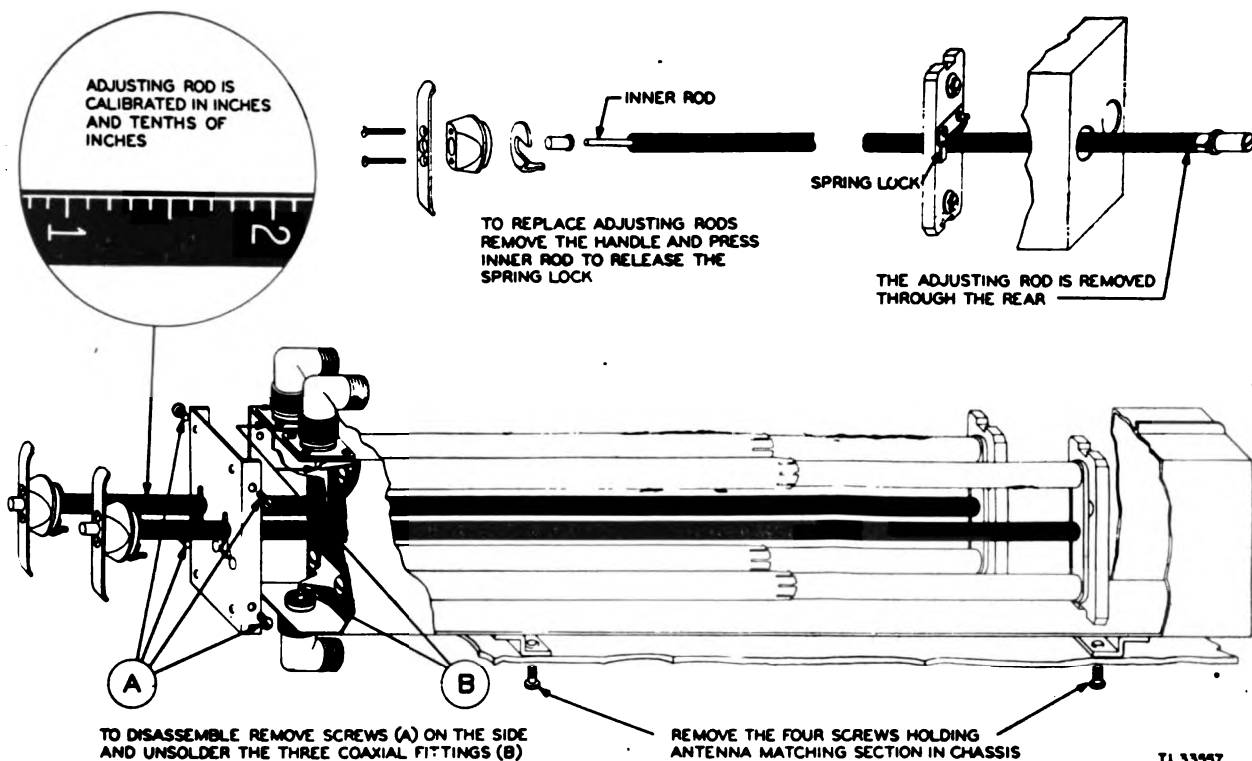
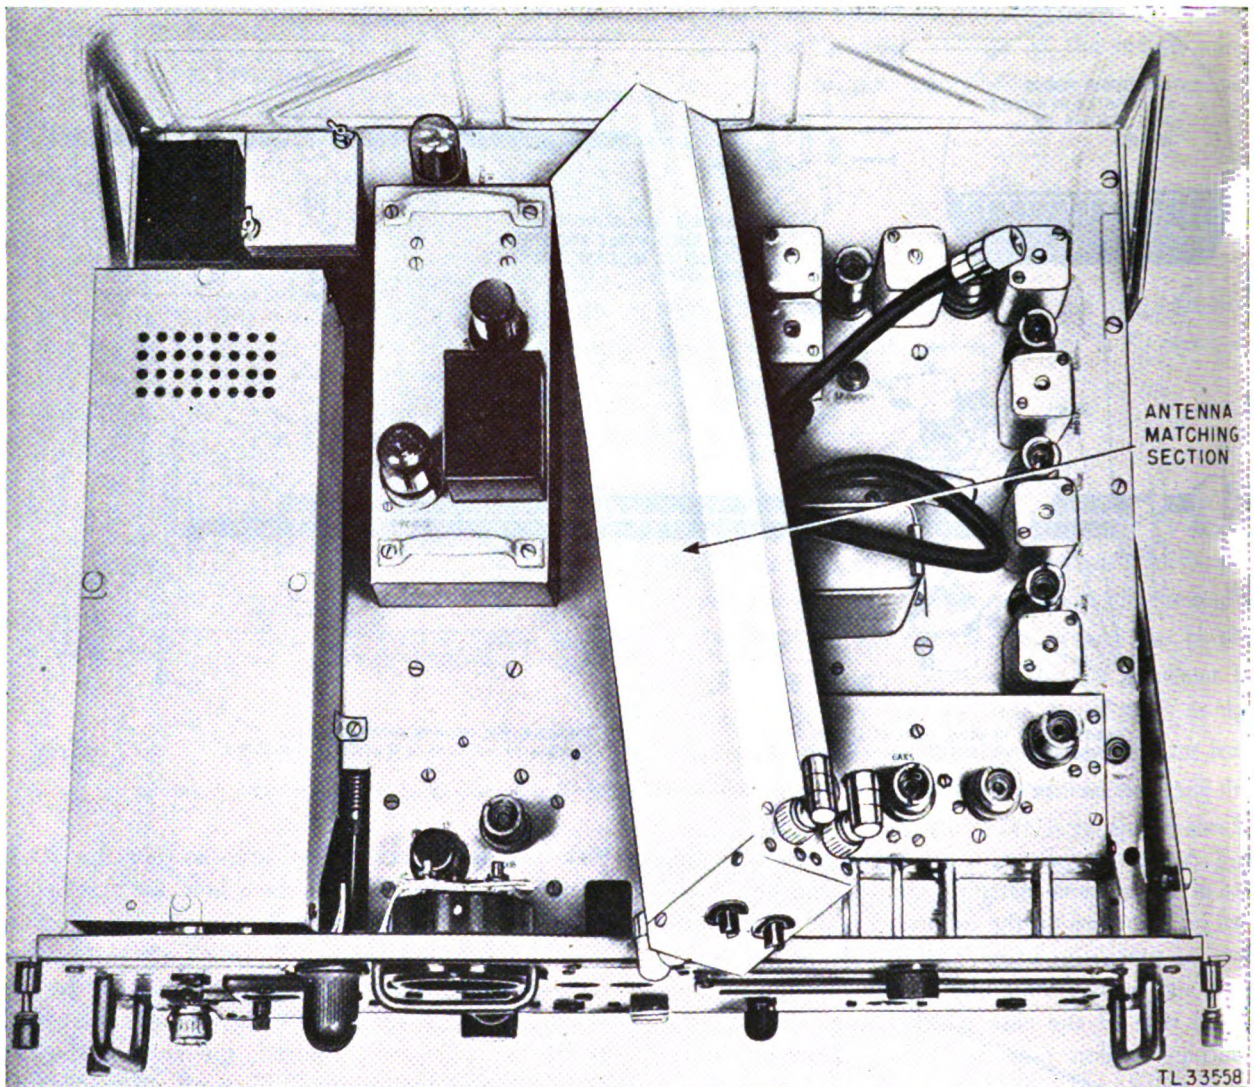

Figure 195. Radio Receiver and Transmitter BC-1267-A, disassembly of antenna-matching section.
Figure 196. Radio Receiver and Transmitter BC-1267-A, removal of antenna-matching section.
**b. ADJUSTING RODS.** To replace an adjusting rod of the antenna-matching section, engage the rod and set it to zero on the calibrated scale; remove the handle; press the inner rod to release the spring lock; and remove the adjusting rod through the hole in the rear of the case which houses the antenna-matching section (see fig. 195). Assemble in reverse order.
**c. ANTENNA-MATCHING SECTION.** To remove the antenna-matching section, disconnect the three cables from their right-angle fittings; set the adjusting rods to zero; remove the handles and center rods; remove the four screws which hold the case to the chassis; and then remove the crossbar brace which is mounted from the front panel to the rear fence. The antenna-matching section can now be removed (see fig. 196). To disassemble the antenna-matching section, remove the four screws which hold the front of the case to the case itself. Unsolder the three coaxial fittings. The entire assembly may now be slid out of the case (see fig. 195). To reassemble, reverse the above procedure.